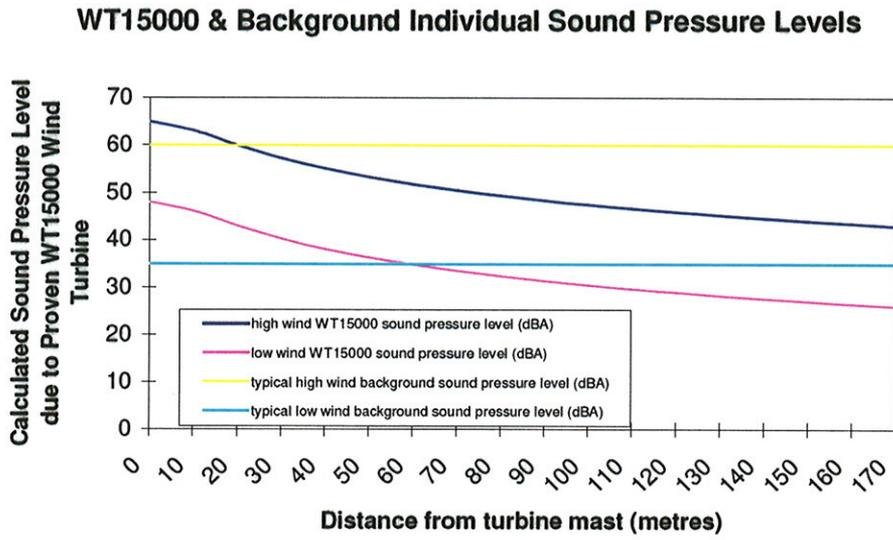

Figure 1
Figure 1 shows how the noise emitted by a Proven WT15000 wind turbine on a 15m mast will disperse over the local environment. Maximum noise output at the base of the machine was recorded at 65dB(A) at a wind speed of 20 m/s. The noise output at the base of the mast in light winds 5m/s was 48 dB(A). The sound meter was held at a height of 1.5m from the ground. Background noise is louder than the turbine when more than 60m from the mast in both cases.